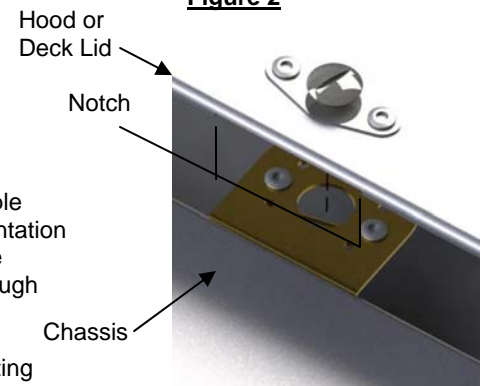

Figure 3
4. Set the hood or deck lid on top of the fastener plates. Align or center the panel and tape down securely. It should set approximately 1/8" above the fenders at this point. Mark the edges of the hood or deck lid where the mounting plates touch the bottom lip of the hood. Remove the hood and notch the lip to just outside of your markings and remove the excess lip between the marks (over the mounting plates) to just flush below the panel. See Figure 3.